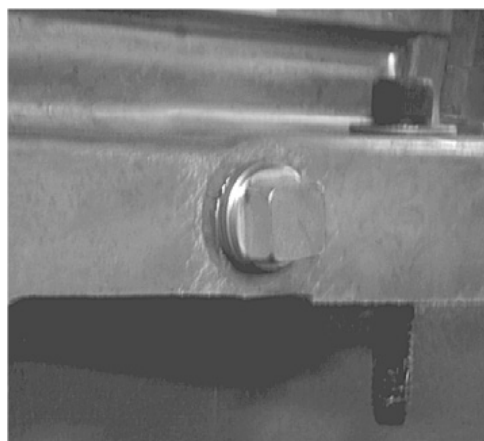

Figure 10.7: Oil change procedure
- Remove the drain plug (Figure 10.7 on page 149) to completely drain the oil from the engine, pouring the removed oil into a suitable container.